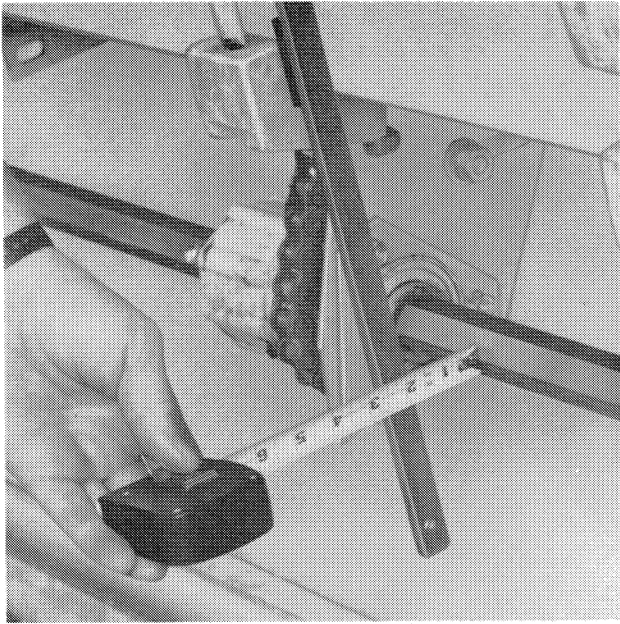

Figure 2-27
7. Check to make sure the hex shaft is straight. See Step 8 for optional hex shaft alignment method. Measure from the header beam to the shaft, as shown in Figures 2-27 and 2-28, at the fixed bearing in the side sheet on the tine end. Adjust the other end of the shaft to match the first measurement.